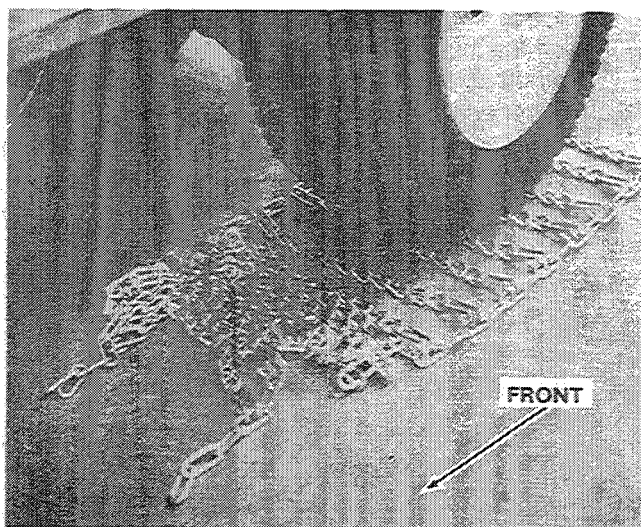

Figure 22. Position Tractor
3. Roll the tractor forward so that the tire rests on the chain as shown in figures 22.